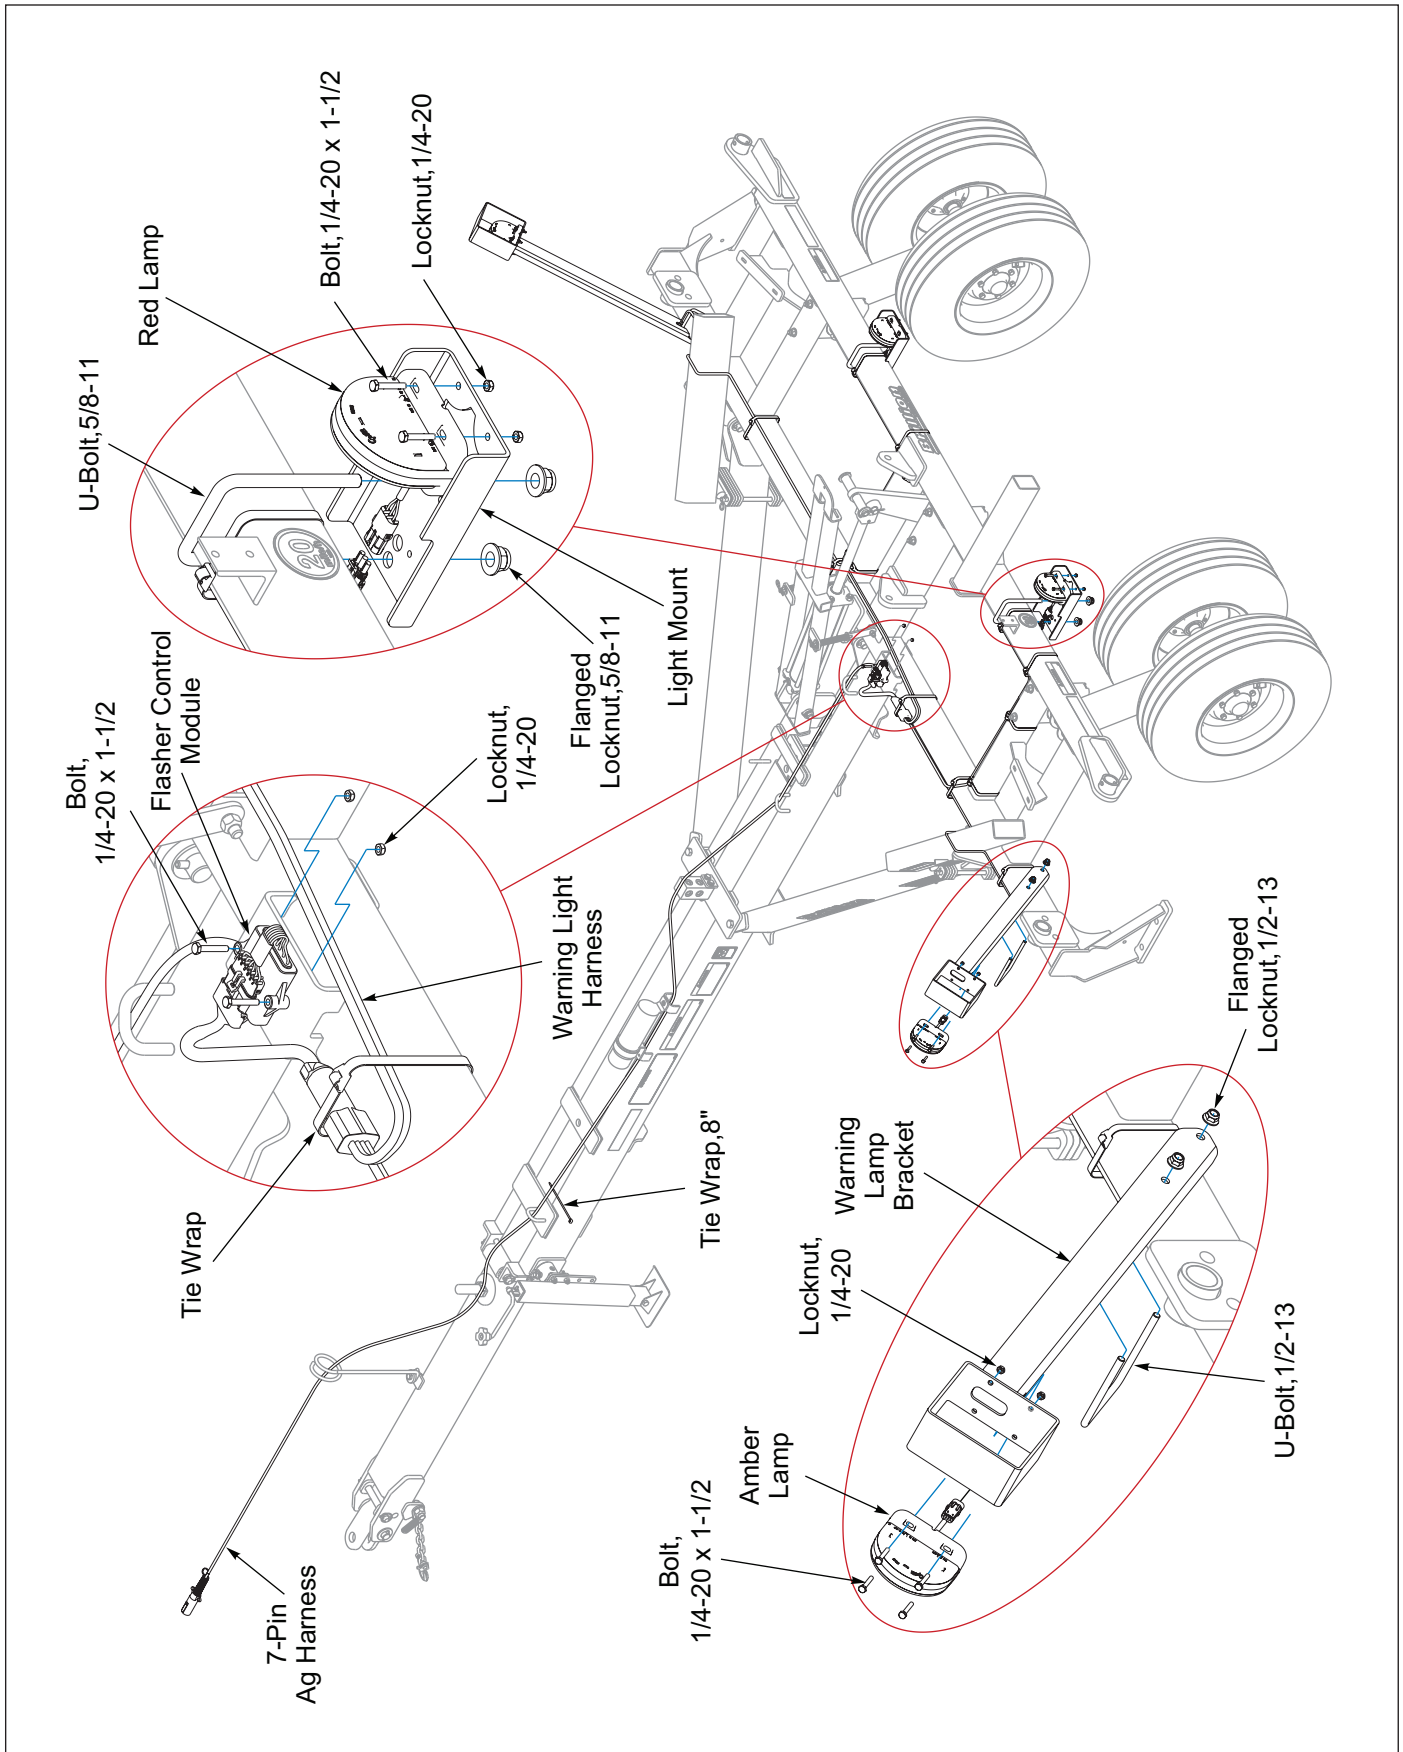

Figure 2-19: Electrical Layout
1. Attach the Light Mounts to the rear frame tube with 5/8-11 U-Bolts and Flanged Locknuts. **See Figure 2-19.**